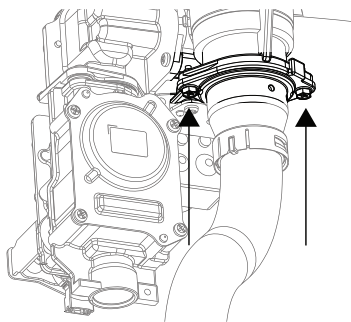

Fig. 3
4. Remove 2 screws that fix the air intake (Fig. 3), and remove the air intake.